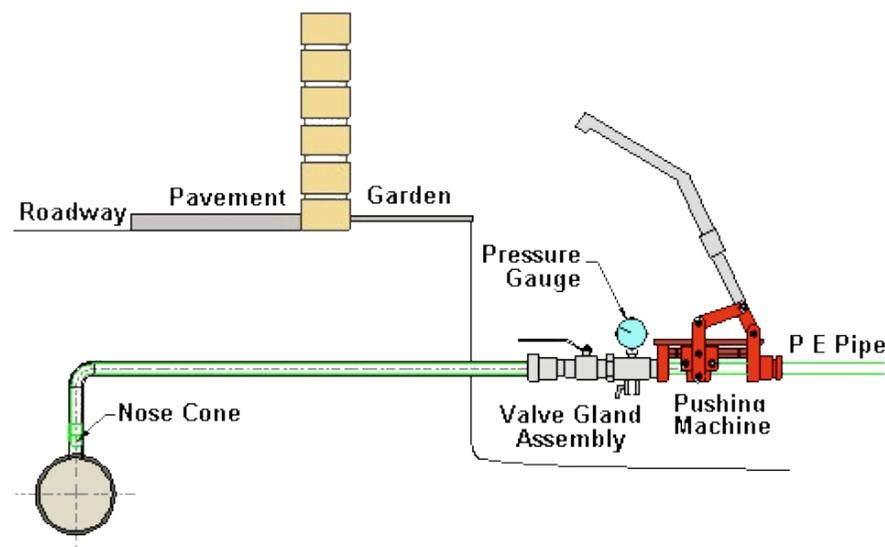

Figure 49 - Insertion of PE
- Install pressure gauge, open gland assembly valve and check district mains pressure (refer to Figure 49 - Insertion of PE).
- Fit the pipe cleaning wire brush to the end of the semi-rigid flexible rod and fit into valve gland assembly. (Figure 49)
27. Install pressure gauge and connect purge hose to the vent on the valve gland assembly (refer to Figure 49).
37. Ensure pressure does not rise back to full line pressure within 5 seconds. (Figure 49).